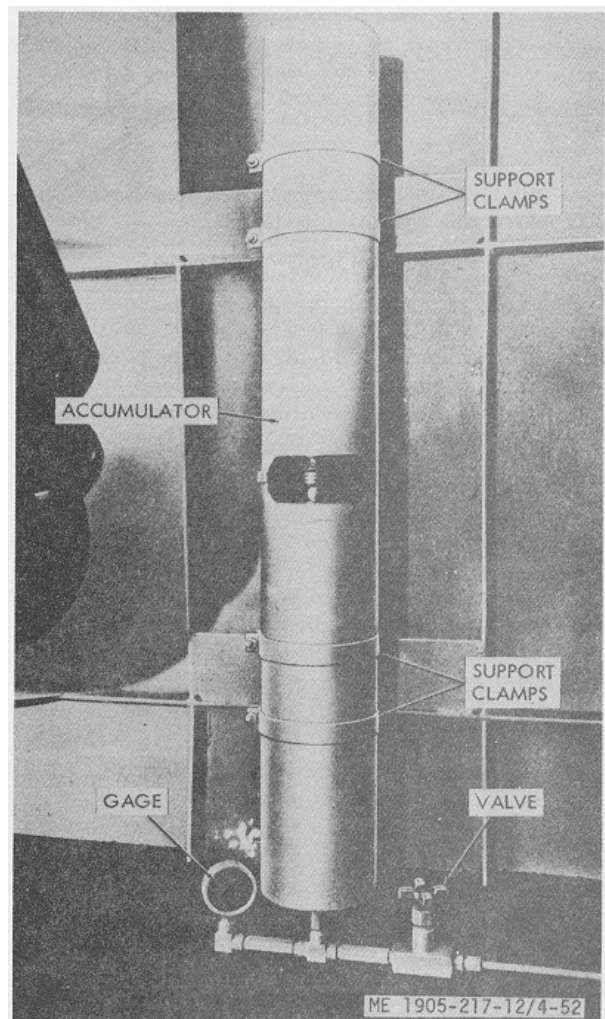

Figure 4-52. Accumulator, Gage and Valve.
#### 4-60. Accumulator (fig. 4-52)
(1) Close valve on opposite accumulator.
(2) Release oil pressure in the hydraulic starting system lines.
(3) Refer to figure 4-52 and remove accumulator by removing support clamps.